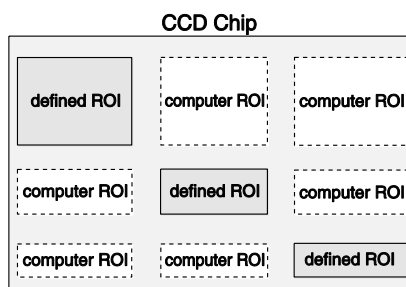
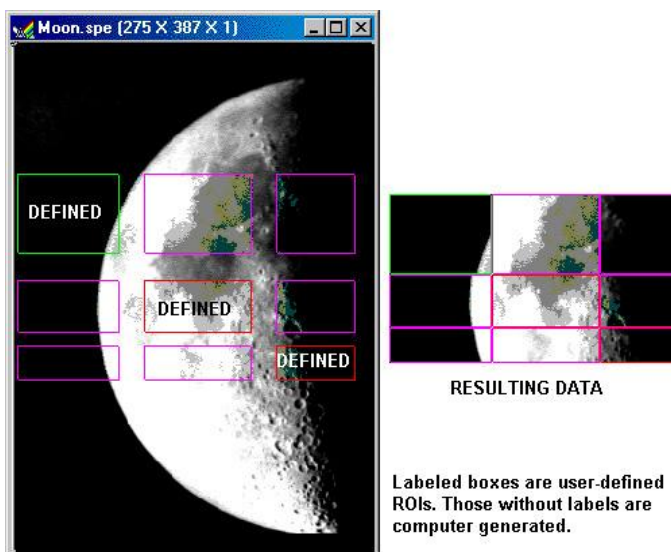

Figure 129. Imaging Mode Multiple ROIs with Different Widths
Figure 130. Multiple Imaging ROIs and Resulting Data
Figures 125-129 show possible ROI patterns. Note that the patterns in Figure 129 demonstrate varying size ROIs, a feature of Imaging Mode.
2. Once the first pattern is defined, all subsequent patterns are automatically assigned the same X-axis starting, ending, and grouping values. The first pattern need not be full width — any values in the chip range can be entered, but once stored, those values will apply as well to subsequently defined patterns. The figures below illustrate possible ROI patterns. Note the additional functionality available in Imaging Mode (Figure 129).
In this mode, ROIs can have varying sizes and degrees of overlap. However, when you define multiple ROIs like those in Figure 129, the computer automatically generates six “side-effect” ROIs in the regions where *extensions* of the strips and columns of the defined ROIs intersect. Both the defined and computer generated ROIs will be stored and the data for both will be displayed (see Figure 130). The side-effect ROIs are necessary to accommodate hardware limitations.